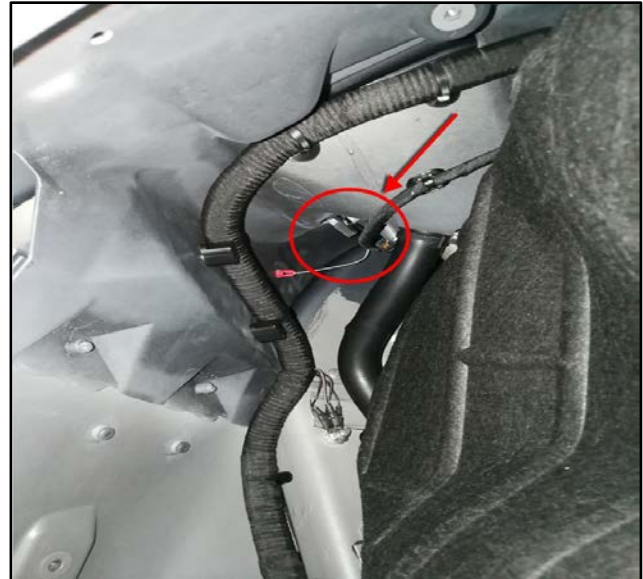

Figure 1
2. Remove the fuel filler latch from the clips that attach it to the vehicle body (refer to Figure 1).